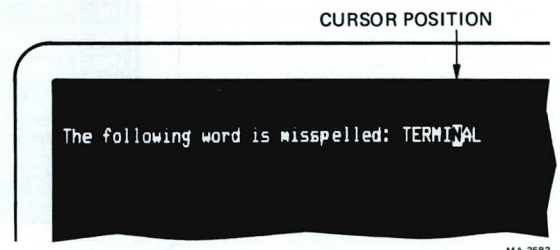

Figure 1-20 Character Inserted
3. Type the character(s) to be inserted (Figure 1-20). All characters at and to the right of the cursor move right one character position for every character typed. If more characters are inserted than there is room for, characters already on the line or unprotected field are lost. The terminal does not move characters from one line or unprotected field to the next even if the wraparound SET-UP feature is on.